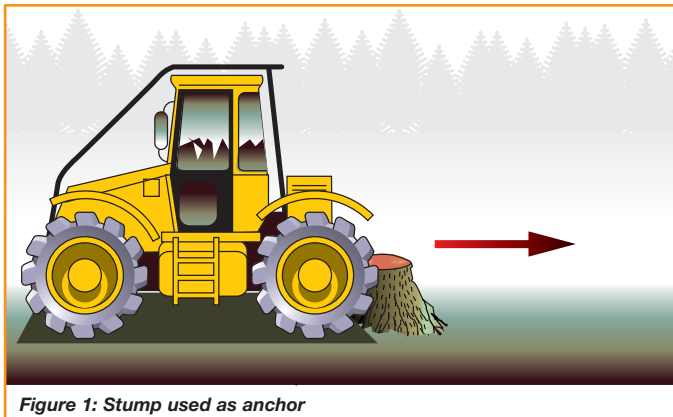

Figure 1: Stump used as anchor
- ❑ 15 Tree stumps or anchors used to secure the winch must be of adequate strength and reinforced where necessary (see *Figure 1*).